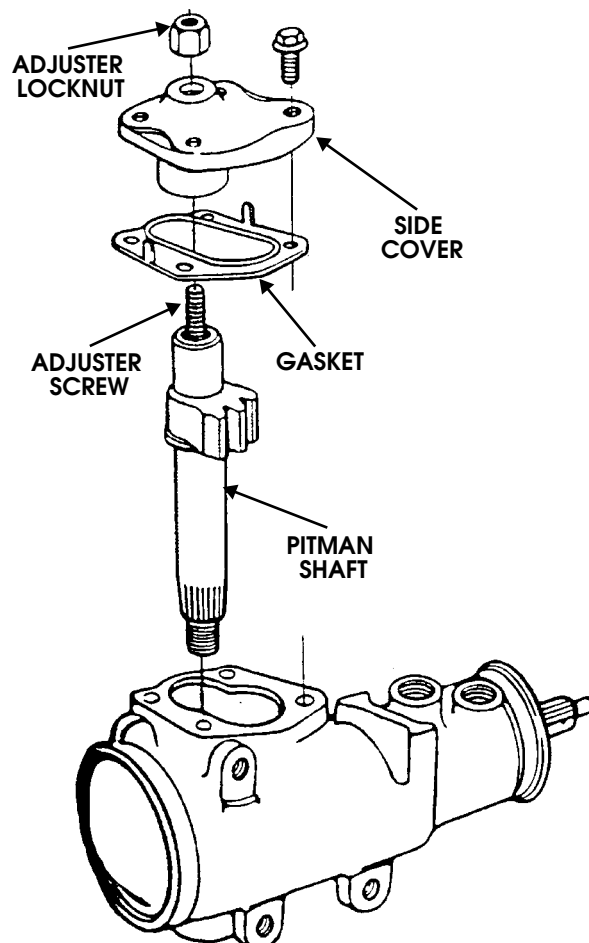

Figure 8-30: Side Cover and Sector Shaft
4. Remove pitman shaft, side cover, and gasket (Figure 8-30).